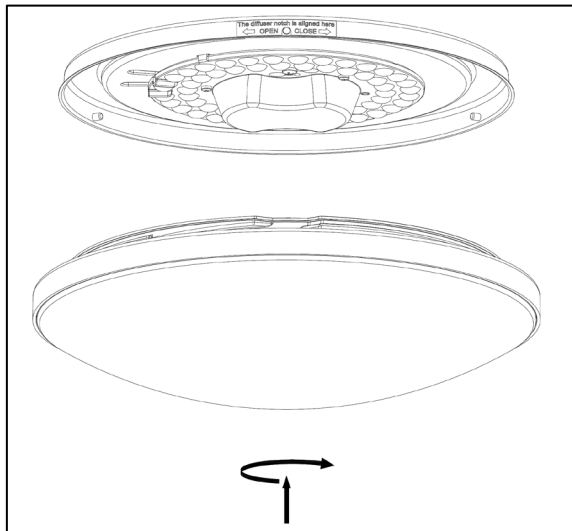

Figure 11
7. Reinstall the diffuser back into the housing assembly by aligning the notch on the diffuser with the pins on the housing assembly, then secure it by rotating in the close direction until it stops. (See Figure 11).